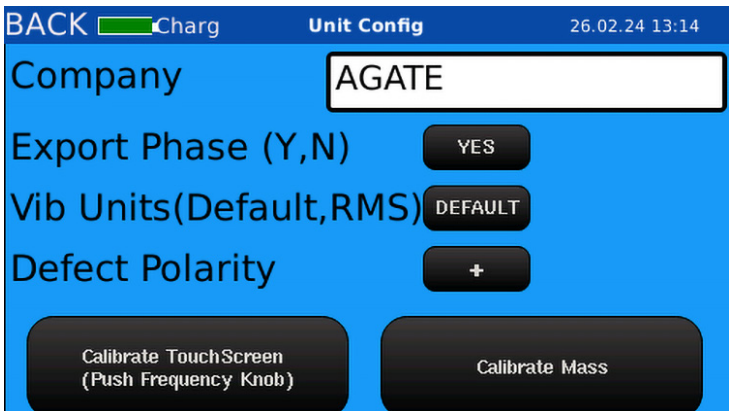

Figure 12. Unit configuration screen
- 2. Select the **Defect Polarity button** to toggle between + (positive) and – (negative) (Figure 12).